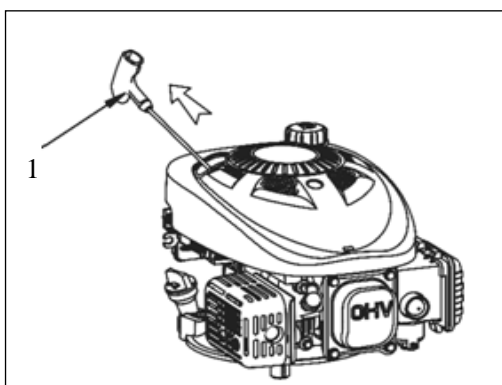

Fig.3
CAUTION: Do not allow the starter grip (1) to snap back against the engine. Return it gently to prevent damage to the starter. (See Fig. 3)